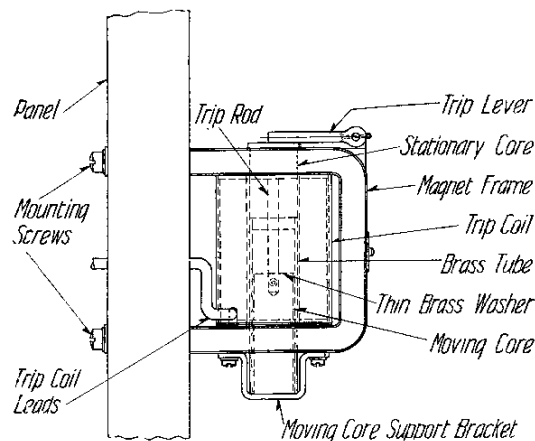

FIG. 12—SHUNT TRIP ATTACHMENT
**Shunt Trip Attachment (Figure 12)**—The shunt trip attachment is for use in tripping a circuit-breaker by means of a push button from some distant point or is sometimes used with circuit closing relays for tripping the breaker.